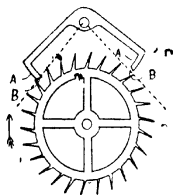

FIG. 63.—English Dead-beat Escapement.
**Other Forms of Dead-beat Escapements.**—Any of the other clocks described may have dead-beat escapements similar in principle to that of the Vienna Regulator. Thus the English skeleton, dial, or other clocks may have the English form shown in Fig. 63. In this form the escape wheel-teeth are pointed and sloped forward, and the pallets are simply filed
The English and French forms of dead-beat escapement shown in Figs. 63 and 64 are sometimes jewelled with agate